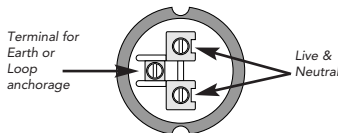

Fig. 5 Batten lamp holders having no rose
9. An additional terminal is provided on the lamp holder, which can either be used to anchor an earth cable when it is present, or can be used as a loop terminal when the product is mounted on a pattress, see figure 5.
11. Insert the cable conductors into the terminals and tighten the screws securely. See figure 5.